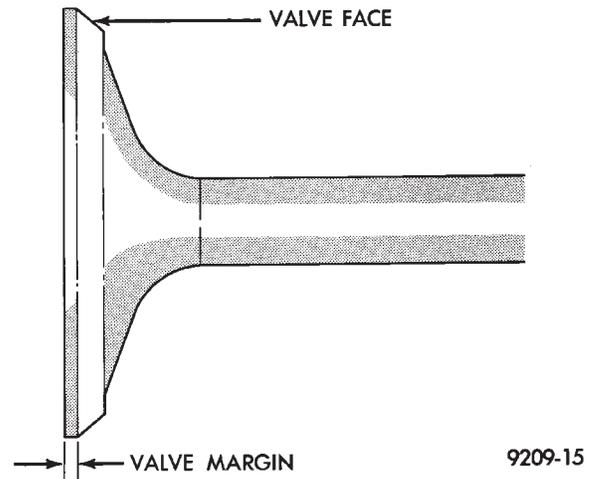

Fig. 23 Refacing Intake and Exhaust Valves
(2) Inspect the remaining margin after the valves are refaced (Fig. 23). Exhaust valves with less than 1.191mm (3/64 inch) margin and intake valves with less than .794mm (1/32 inch) margin should be discarded.
(3) When refacing valve seats, it is important that the correct size valve guide pilot be used for reseating stones. A true and complete surface must be obtained.
(4) Measure the concentricity of valve seat using a valve seat dial indicator. Total runout should not exceed .051mm (.002 inch) (total indicator reading).
(5) Inspect the valve seat with Prussian blue to determine where the valve contacts the seat. To do this, coat valve seat **LIGHTLY** with Prussian blue then set valve in place. Rotate the valve with light pressure. If the blue is transferred to the center of valve face, contact is satisfactory. If the blue is transferred to top edge of the valve face, lower valve seat with a 15 degrees stone. If the blue is transferred to the bottom edge of valve face raise valve seat with a 65 degrees stone.